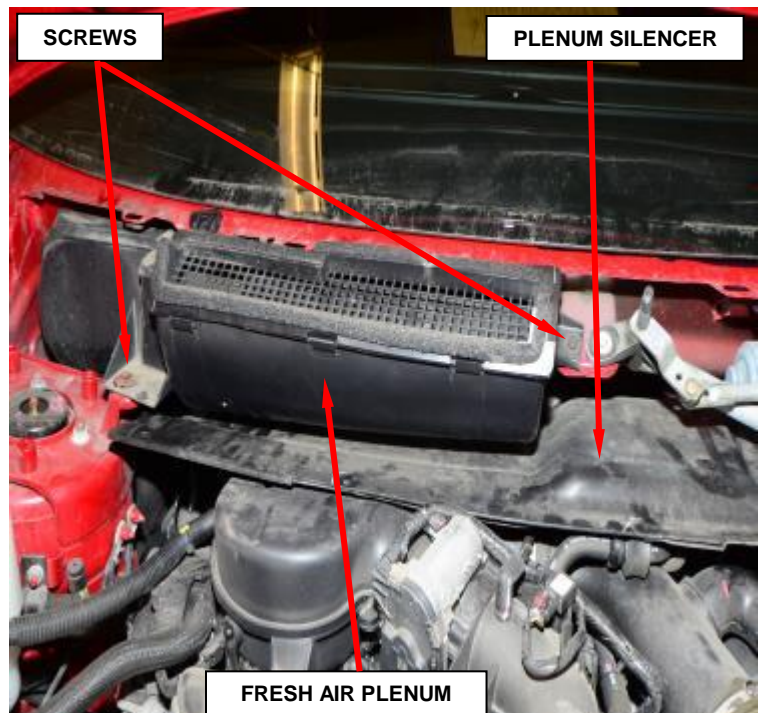

Figure 5 – Fresh Air Plenum
9. Remove and save the two screws then remove the fresh air plenum (Figure 5).
10. Remove and save the plenum silencer (Figure 5).
31. Install the plenum silencer (Figure 5).
32. Position the fresh air plenum and install the two mounting screws. Tighten the screws securely (Figure 5).